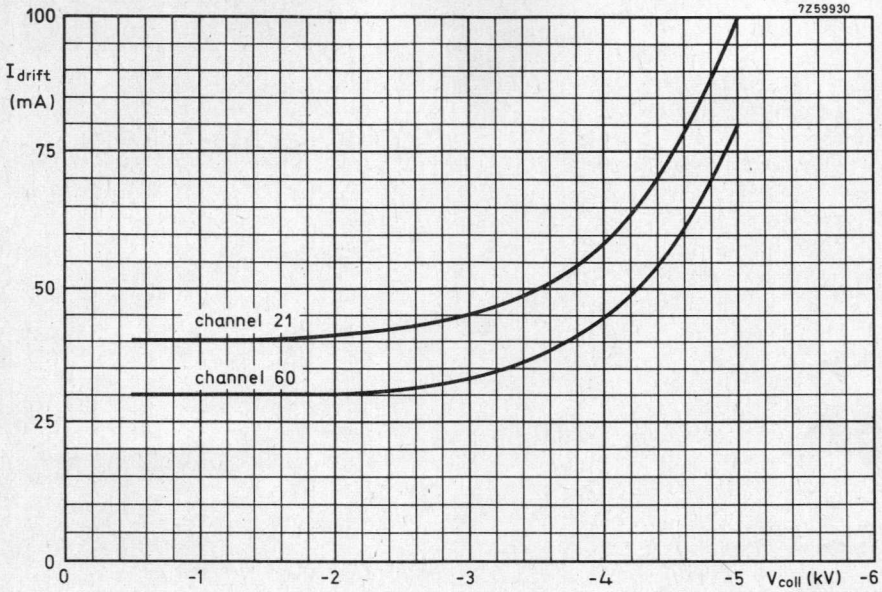

Fig. 8.
* The limiting values for various operating conditions are given in Fig. 8.
11. At black level, to be focused for minimum drift tube current. If necessary to obtain the required signal-transfer quality, a deviation of maximum 10% from this minimum current is permitted. The limiting value, see Fig. 8, may however, not be exceeded.